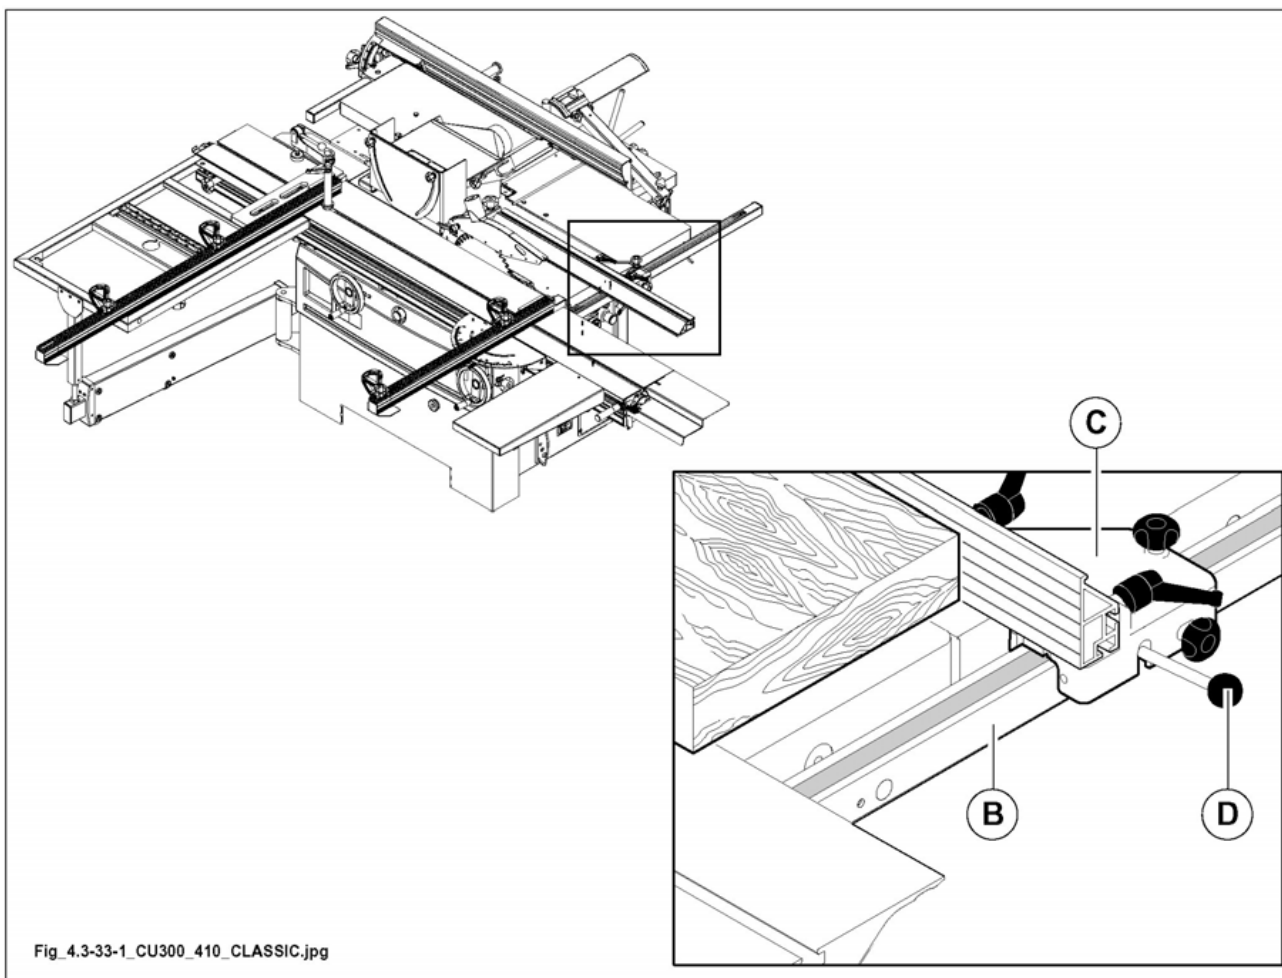

Fig. 4.3-33-1
- Position the support (C fig. 4.3-33-1) on the slider (B fig.4.3-33-1) and tighten lever (D fig.4.3-33-1).